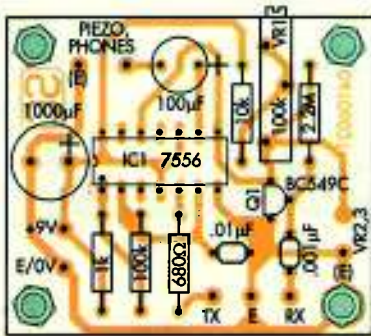

Fig.3: the PC board isn't very big – and there's not much on it!
The PC board of the Matchless Metal Locator measures 48mm x 42mm, and is coded 04106021. There are not many components, so it should be easy to assemble the board using the PC board overlay diagram in Fig.3.
- PVC piping, joints, nuts and bolts as required (see Fig.3)